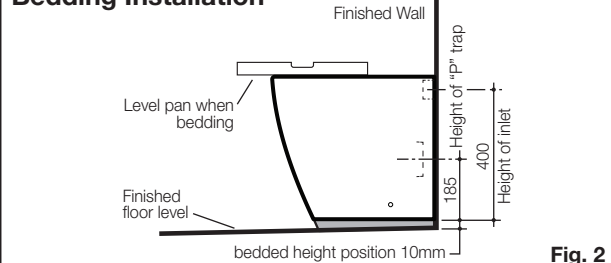

Fig. 2
- 7- Position and push pan into connector ensuring that the flush pipe and keeseal engage into the pan inlet. Level pan into bedding mixture, so that the back of the foot of the pan is approximately 10mm above the finished floor as detailed in **Fig. 2**. It is recommended that wedges are used to support the foot of the pan during the positioning.